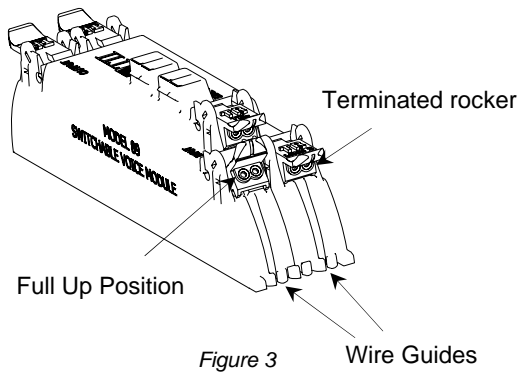

Figure 3
- Lift the blue rocker for the MSO service wires to the full up position. DO NOT strip wires. (See Figs. 3 & 4)
- Insert the MSO service wires from the ATA/EMTA into the wire guides simultaneously until they bottom-out. While holding wires in position, terminate into MSO (Blue) rocker by lowering to the full down terminated position. (See Figs. 3 & 4)
- Lift the Telco rocker to its fully upright position. Insert the Telco wires from the service provider into the Red and Green marked rockers. While the wires are fully inserted, lower the rocker fully down to complete the Telco wire termination. (See Figs. 3 & 4)
- Terminate the customer wiring onto the Red/Green marked rocker on the right side of the module. Insert wires into the customer rocker holes. While assuring that the wires are fully inserted lower the rocker to its fully seated position. (See Figs. 3 & 4)
- Connect a wire pair designated as Line 2 from the ATA/EMTA to the rocker labeled TEL (Orange) on the left side of the module. Follow procedure described above for the wire pair termination. (See Figs. 3 & 4)
- To keep wire pairs organized, route them through the molded wire guides. (See Fig. 3)